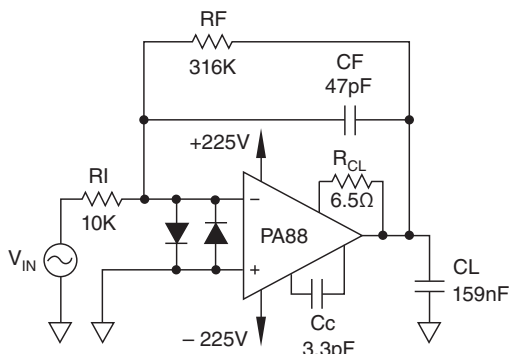
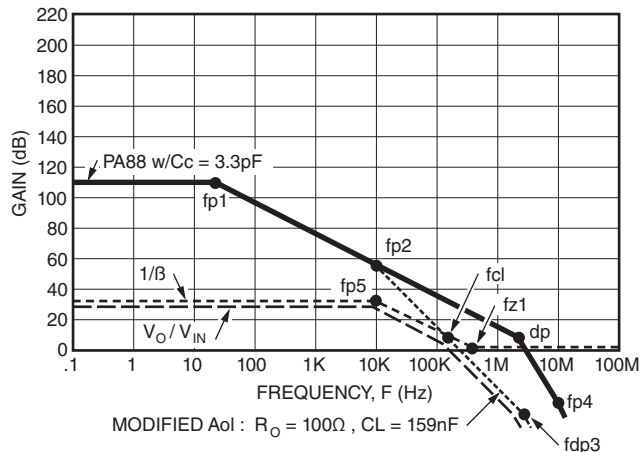

FIGURE 26. FEEDBACK ZERO COMPENSATION FOR CL
FIGURE 27. FEEDBACK ZERO COMPENSATION FOR CL MAGNITUDE PLOT FOR STABILITY
Figure 26 illustrates a circuit utilizing Feedback Zero Compensation for stability when driving a capacitive load. Figure 27 is our magnitude plot to work with for stability. The following procedure will ensure a logical approach to optimize stability:
- STEP 1:** Modify the PA88 Aol due to CL. Here we use the output impedance number for the PA88 of $R_o = 100$ ohms. The higher frequency poles of the unmodified PA88 Aol must be added into the modified Aol as shown in Figure 26.
fc_1 such that if the modified Aol plot in the real world moves to the left towards lower frequency we will not be back at a 40 dB per decade rate of closure. Note in Figure 27 that the $1/\beta$ plot has fp_5 and fz_1 . The feedback network continues to feed back output voltage beyond fc_1 until we reach 0 dB. Then the $1/\beta$ plot flattens out at 0 dB. It is important to include fz_1 since it will be a pole in our open loop phase check
STEP 5: Once you have chosen CF to get the f_{p5} you want you automatically set f_{z1} . f_{z1} can be gotten graphically from the $1/\beta$ plot. For those of you who want exact breakpoints, here are the formulae for the $1/\beta$ plot in Figure 27.